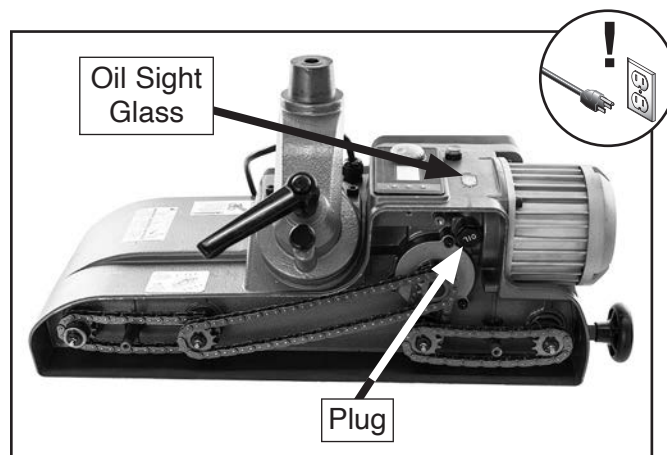

Figure 33. Location of gearbox plug/oil drain and sight glass.
4. Place drain pan under plug labeled "OIL," then remove plug (see **Figure 33**) and drain oil.